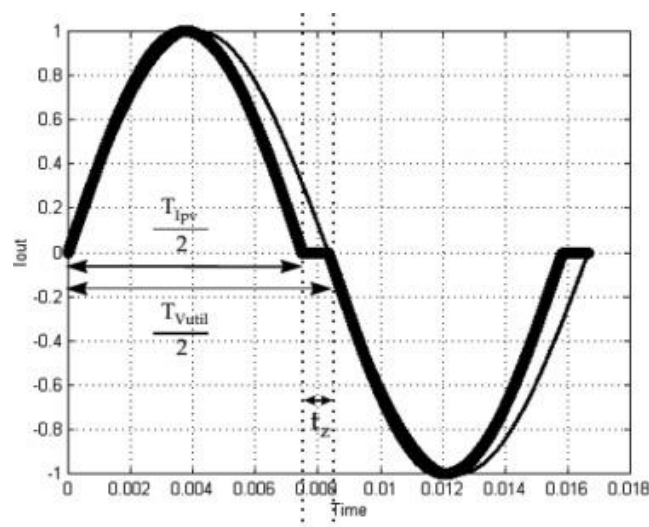

Fig. 1 AFD current reference of inverter.
2. The injected current signal distorts the inverter current by presenting a 0 A segment for drift up operation as shown in Fig. 1.